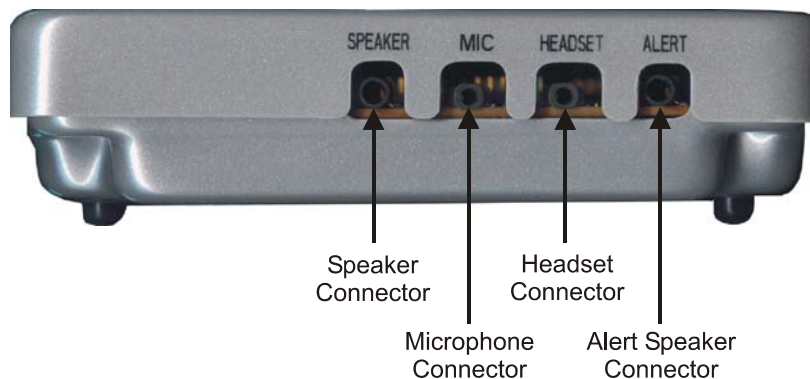

Figure 2-4: Audio Connectors (Left Side)
- Connect the supplied headset to the appropriate connector, labeled **HEADSET** (Figure 2-4, on page 10)